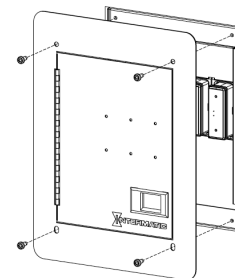

Figure 7
11) Attach flush mount plate with the included #8-32 serrated self-tapping screws included in kit. The door of the flush mount plate should now easily open and latch closed. The door of the SPD should always be closed when not servicing. (Fig. 7)